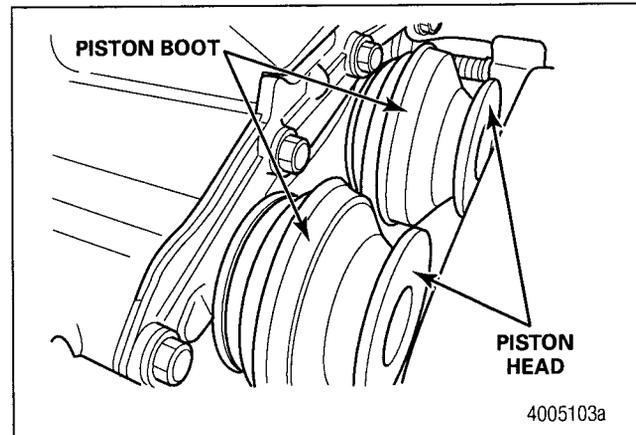

Figure 6
- Burnt or melted caliper piston boots. Figure 6.